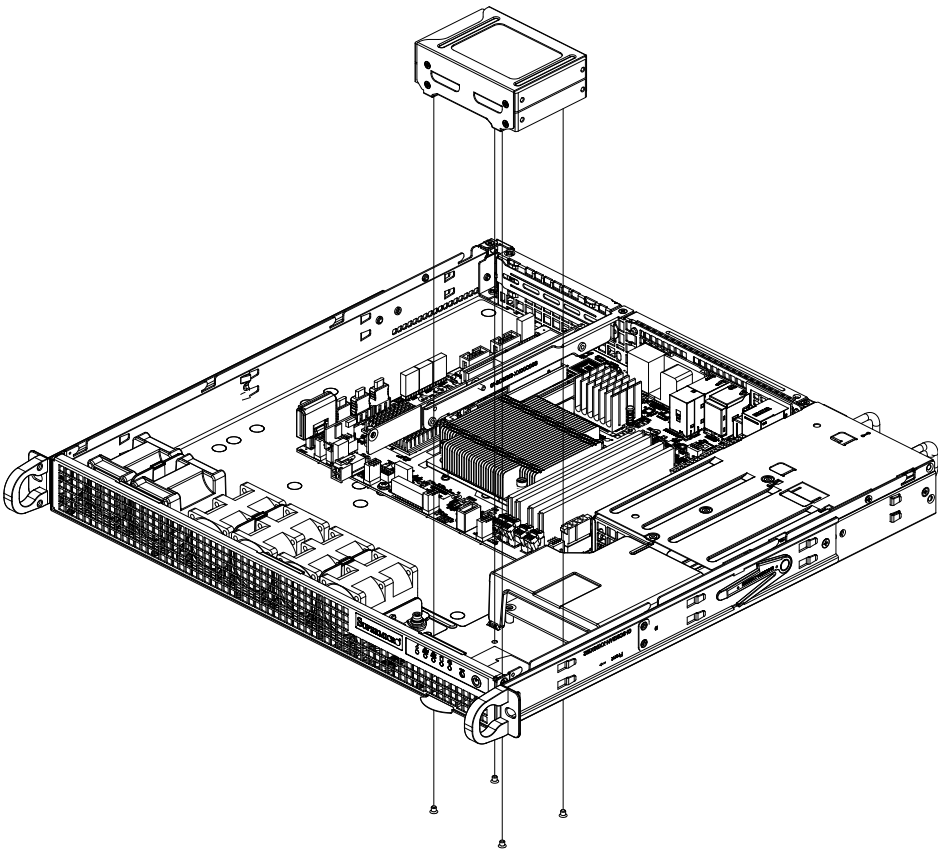

Figure 3-12. Securing the HDD Bracket to the Chassis Floor
2. Secure the HDD bracket to the chassis floor. (Figure 3-12).